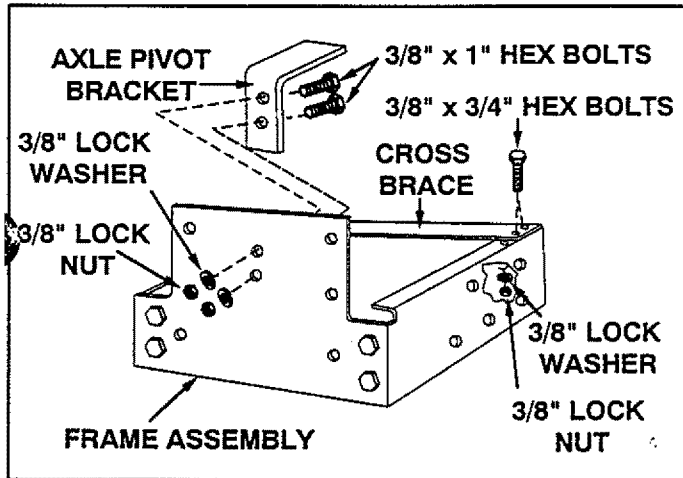

FIGURE 7
- Remove the four bolts which fasten the cross brace to the frame assembly and reposition and fasten the brace using the back set of holes in the frame assembly. **Tighten.** See figure 7.
- Assemble axle pivot bracket to the inside of the front plate on frame assembly using two 3/8" x 1" hex bolts, 3/8" lock washers and 3/8" lock nuts. **Tighten.** See figure 7.